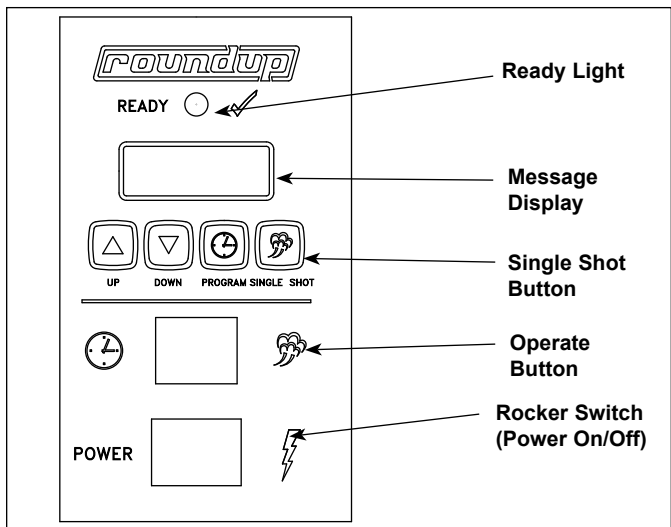

Figure 5b. Operating Controls (MS-150/250 Mfg. #9100424, 9100432, 9100433, & 9100439 ONLY)
When the Single Shot button (Figure 5b) is pressed, power is supplied to the Solenoid/Water Pump. The solenoid/ water pump operates and water sprays onto the heated Steam Generator. The water flashes immediately into live steam and shoots down onto the product.
1. Turn the unit on (Figure 5b).